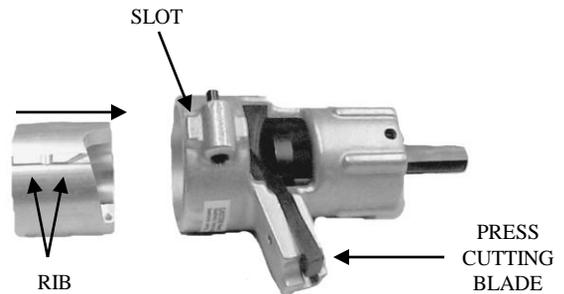

Fig. 2
**Step 2.** (Fig. 2) To insert the bushing into the WS6-M, line up rib on the bushing with the slot on the WS6-M housing. Raise the cutting blade by depressing outer end and insert the bushing until it locks into place.